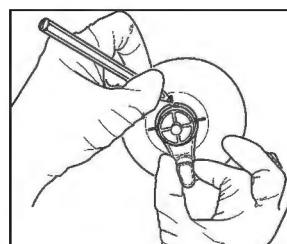

Figure 4
6. As indicated in figure 4, with the ELD hourglass centred on the tissue expander injection site, make a mark with an ink pen in each of the four notches around the anterior perimeter of the ELD holder.